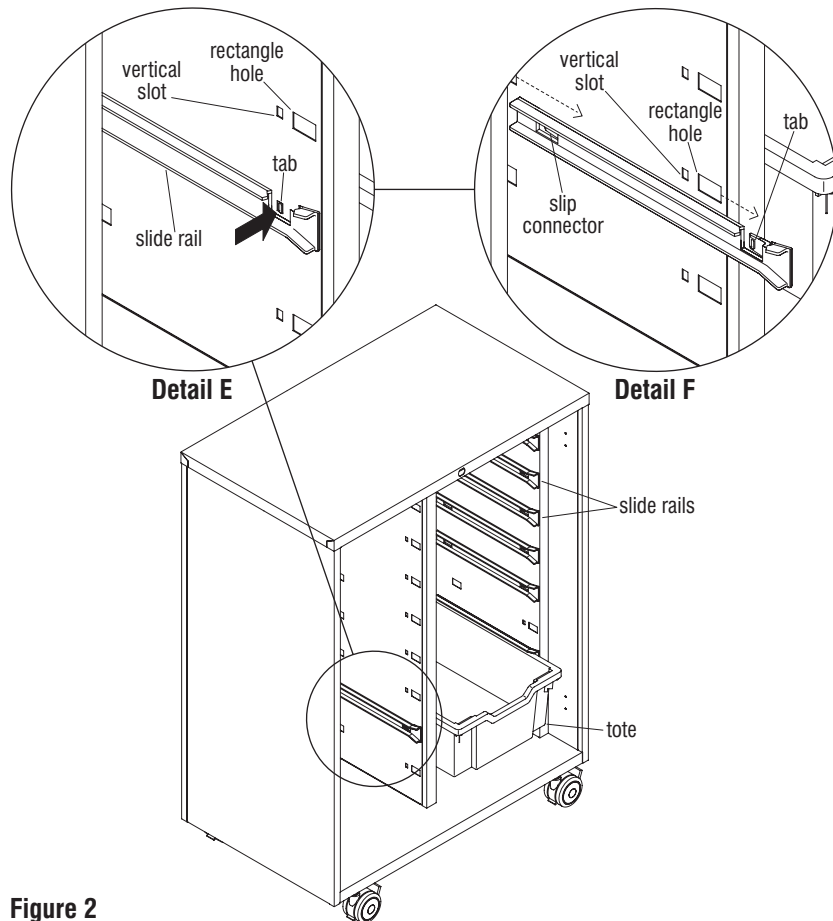

Figure 2
1. To remove a slide rail, first remove the tote from the storage cabinet. At the opening in the front of the slide rail, locate the locking tab in the vertical slot in the cabinet. Using your thumb, press in on the locking tab and pull the slide rail straight forward to disengage both slip connectors, then pull the slide rail inward, from its mounting location in the cabinet (Figure 2 & Details E & F).